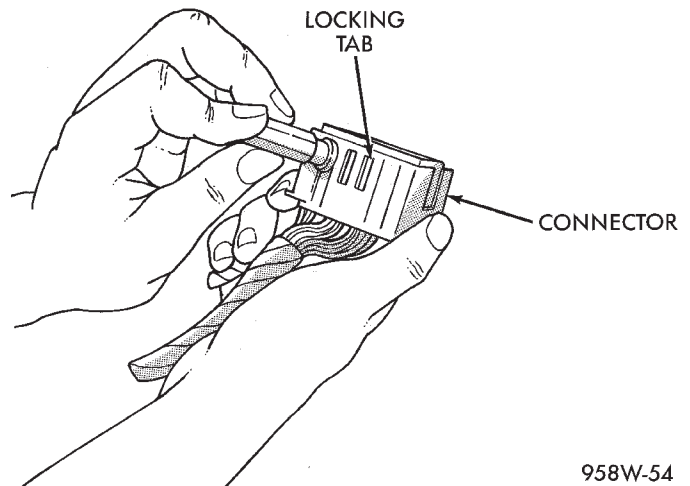

Fig. 14 Augat Connector Repair
(1) Disconnect battery.
(2) Disconnect the connector from its mating half/component.
(3) Push down on the yellow connector locking tab to release the terminals (Fig. 14).